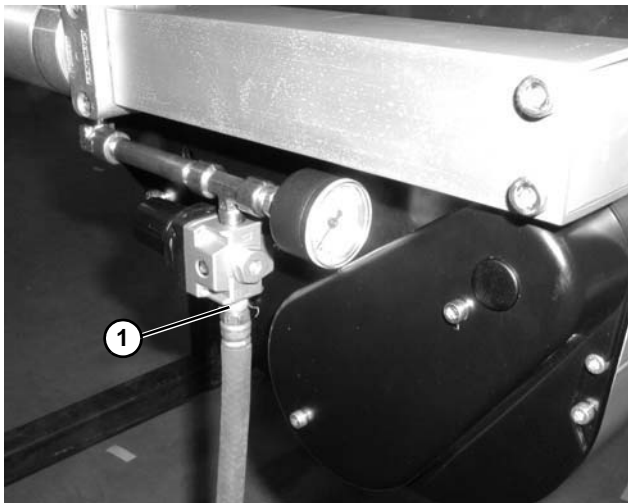

Figure 108
1. Remove air supply and remove hose (**Figure 108, item 1**) from center drive.